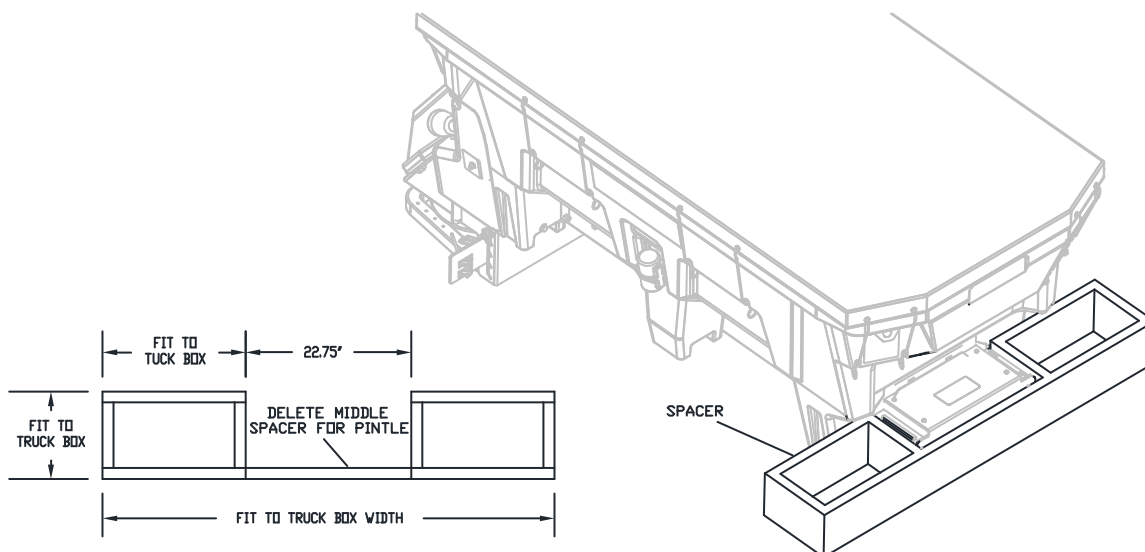

Figure 10. Spacer Installation
2. Build Spacer as pictured in Figure 10 using 2" X 8" boards.